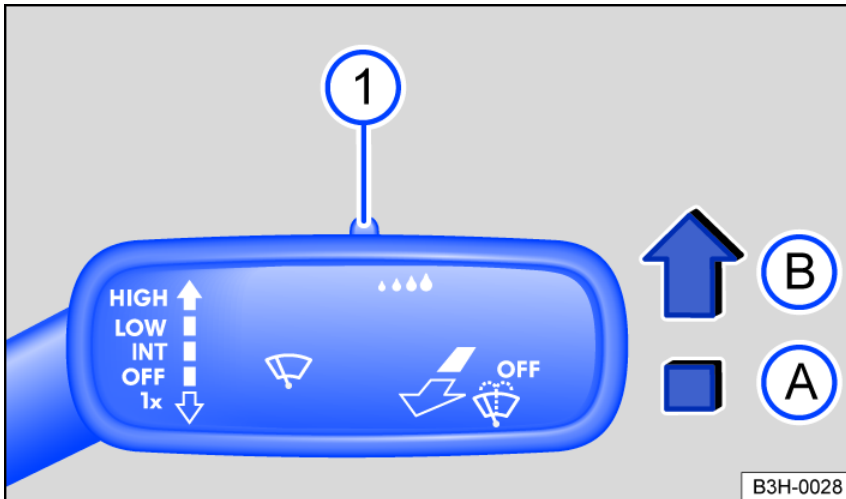

Fig. 83 On the right side of the steering column: windshield wiper lever.
Press the lever into the desired position *fig. 83*:
The sensitivity of the rain/light sensor can be manually adjusted with the switch in the windshield wiper lever *fig. 83* ① ⇒ .